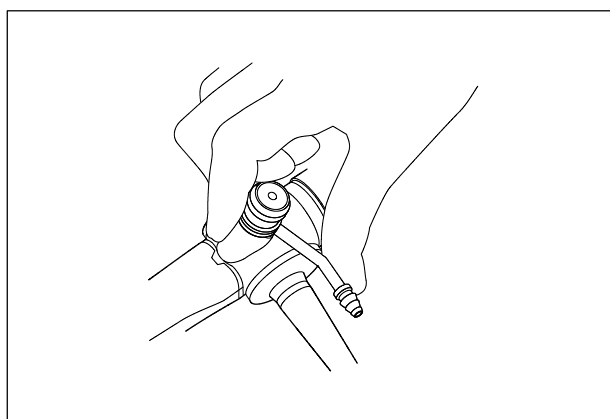

Figure 7.7
2. Remove the single-use suction valve (MAJ-209) from the endoscope as shown in Figure 7.7 below and discard it.